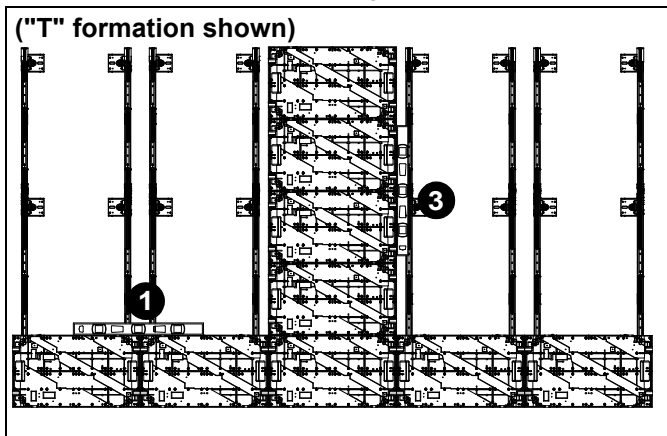

Figure 25
3. Install displays in a "T" or "L" formation following steps in **Displays Installation Section** making sure the column is level after installation. (See Figure 25)